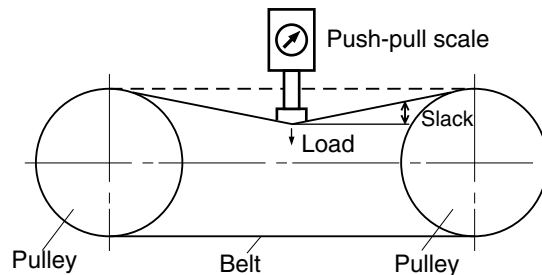
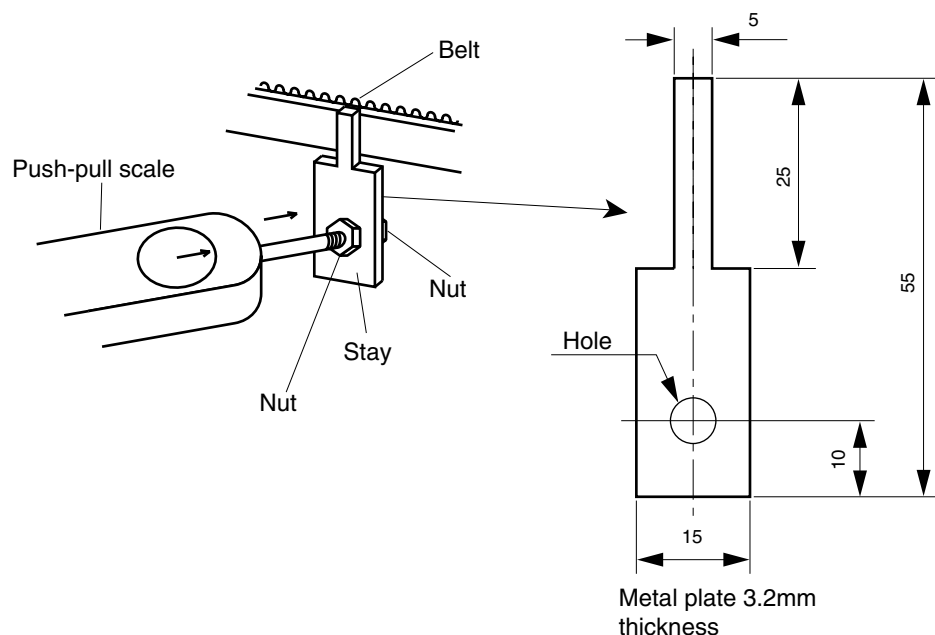

Fig. 4-16 Belt tension adjustment
Fig. 4-17 Stay (example)
- Stay (See Fig. 4-17. This stay should be prepared by the user.)
Using the push-pull scale, one person applies a load perpendicular to the middle of the belt. The other person checks the slack of the belt. (See Fig. 4-16 and Fig. 4-17.)
Using the push-pull scale, one person applies a load perpendicular to the middle of the belt. The other person checks the slack of the belt. (See Figs. 4-16 and 4-17.)